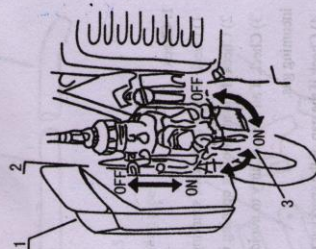

Fig. 9
- 1) Turn on the fuel switch, see Fig. 9.